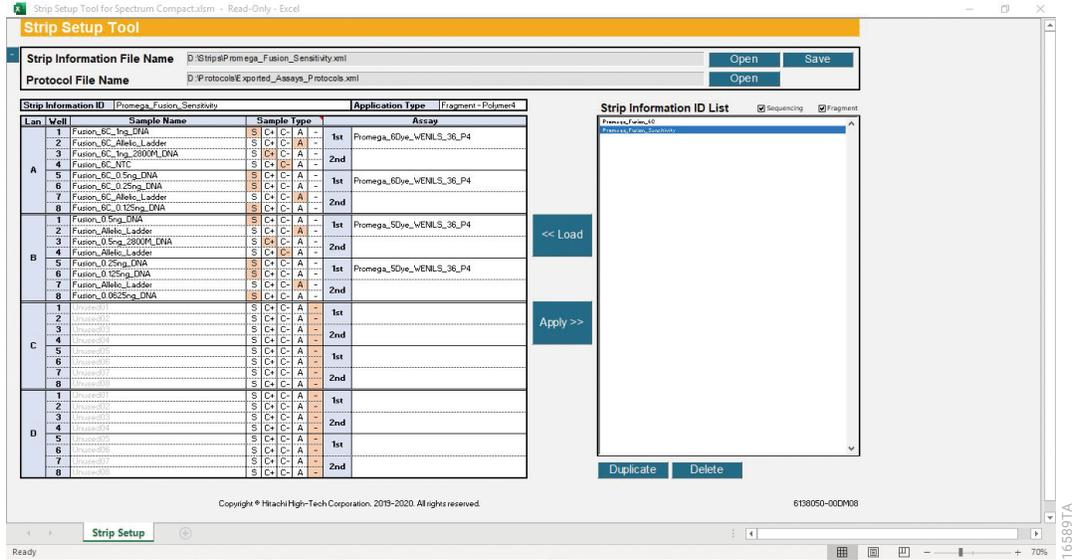

Figure 221. Strip Setup Tool for Spectrum Compact with new strip in Strip Information File Name.
- a. An asterisk appears in front of the newly created strip file name in the Strip Information ID List prior to saving the strip information as a .xml file. After saving as a .xml file, the asterisk disappears (Figure 221).
- The name and location of the new strip will now appear in the Strip Information File Name cell (Figure 221).